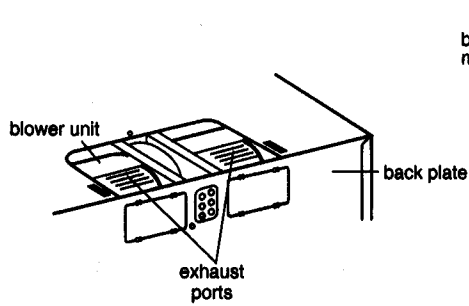

Figure 15
5. Place blower unit back into cabinet. Check that the exhaust ports face the upper of the cabinet. See Figure 15.